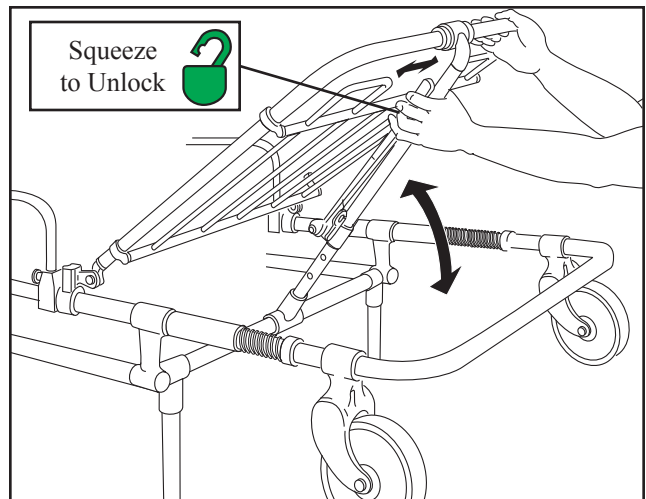

Figure 5 - Adjusting the Backrest
3. Raise or lower the backrest to near the desired position (Figure 5).